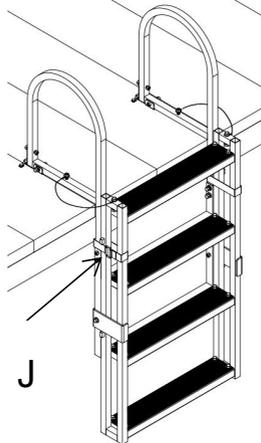
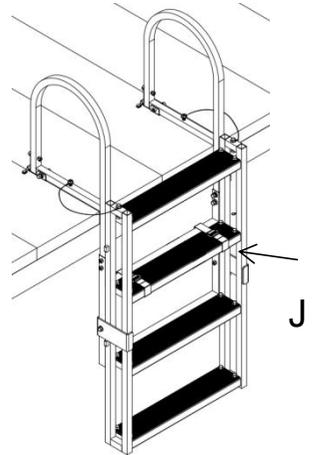

Fig 2
Fig 3
- 2) Finally, use magic tape band(J) to tie the ladder frames(Fig2.), If the guide bar and step are aligned, they can also be tied as shown in Figure 3.(keep the space between them(J) as wide as possible.)